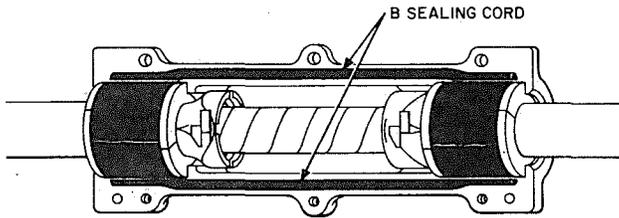

Fig. 17—B Sealing Cord Placed in Groove
4.08 Examine the grooves which will receive the sealing cords. They should be clean and free from oil, grease, water, etc. Lay a length of B sealing cord in each groove. Take care not to stretch the cords and avoid making flat spots or dents that might prevent a good seal (Fig. 17).